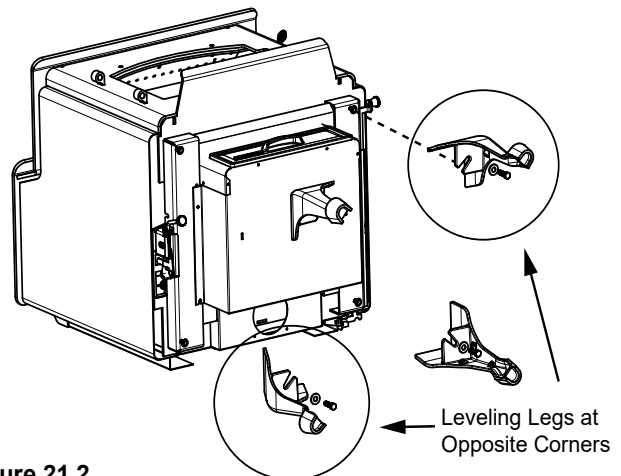
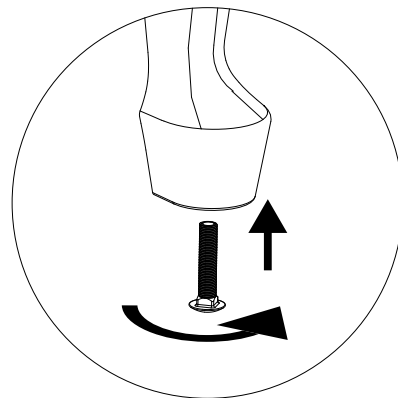

Figure 21.2
Figure 21.3
4. Install legs onto leg brackets making sure the legs are up against the bracket and secure with bolts and washers using a 3/8 open end wrench (**Figure 21.2**).
5. Install leveling bolts into 2 legs; these leveling legs should be in opposite corners (**Figure 21.2 and Figure 21.3**).
7. Use leveling bolts on legs to stabilize and level appliance (**Figure 21.3**).